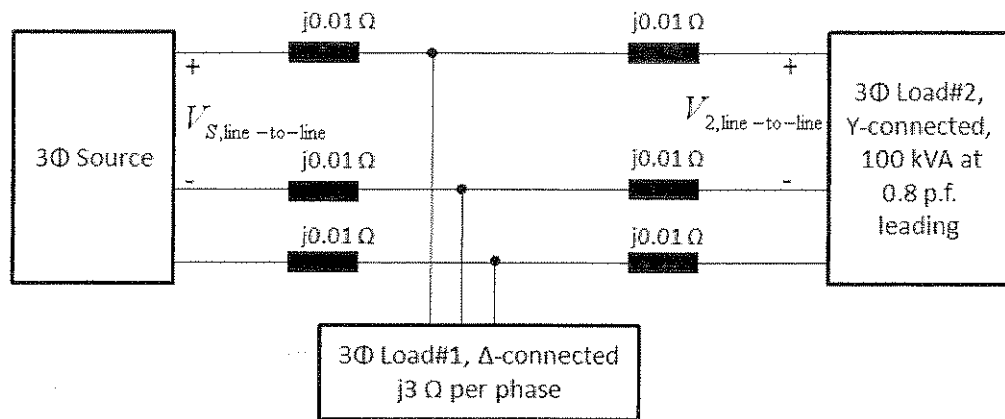

Fig. Q1
- a. A three-phase 50 Hz voltage source feeds two balanced three-phase loads connected in parallel. The single-line diagram of the three-phase system is shown in Fig. Q1. Load#1 is inductive load of  $j3 \Omega$  per phase in delta connection and Load#2 is wye-connected and absorbs a total of 100 kVA at 0.8 p.f. leading. If the line-to-line voltage at the terminal of Load#2 is  $230\angle 0^\circ$  V(rms), assume positive sequence circuit find both magnitude and phase of line-to-line voltage at the source,  $V_{S, \text{line-to-line}}$ .